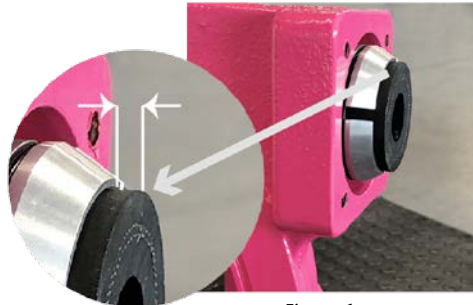

Figure 1
6. Lay the press rings. Between the end of the hose and the press ring, there must be a specific distance (see fig. 1 and fig. 2).